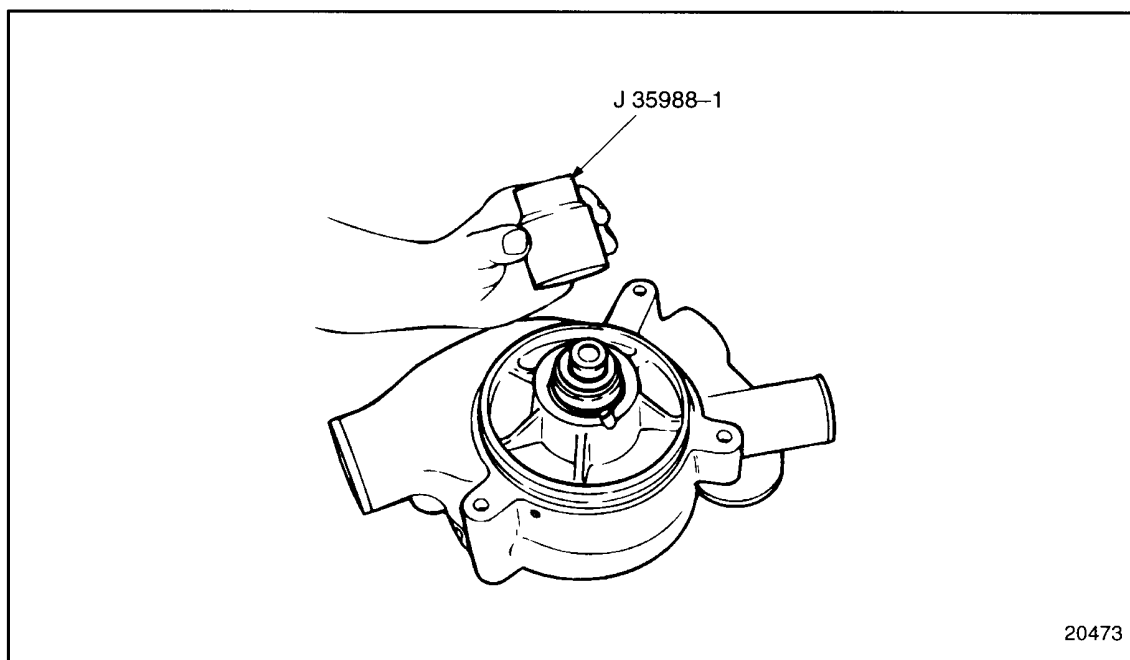

Figure 4-19 Drive Shaft Installation
8. Place the large end of tool J 35988-1 part of J 35998-B, part of tool set J 35988-B, over the drive shaft so that the lip of the tool rests squarely on the outer bearing race. See Figure 4-19.